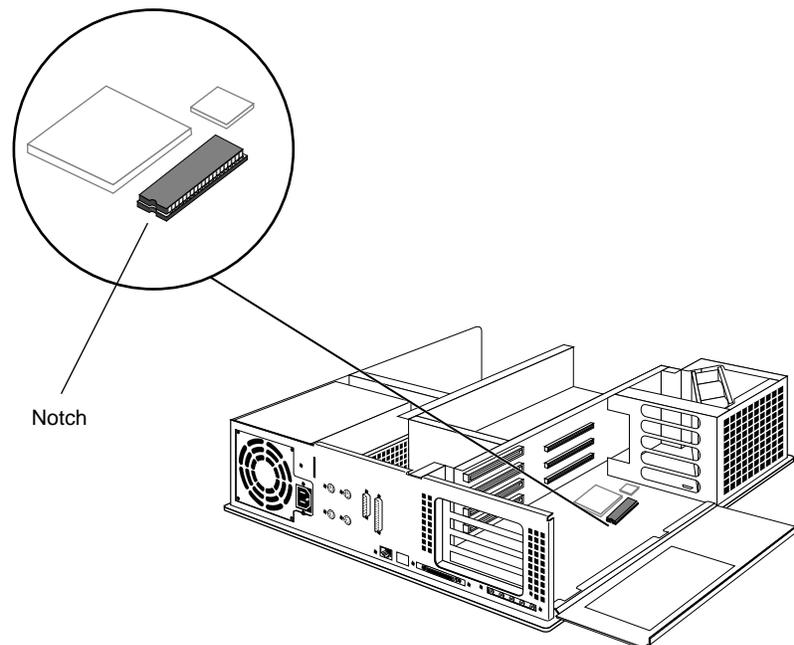

Figure 12 Locating the PROM chip on the CPU board.
1. Locate the PROM chip. The PROM chip is located on the CPU board below the slot from which you removed the graphics board, as shown in Figure 12.
Note that the PROM chip has a semi-circular notch on one end, as shown in Figure 12. You'll use this notch to orient the PROM.